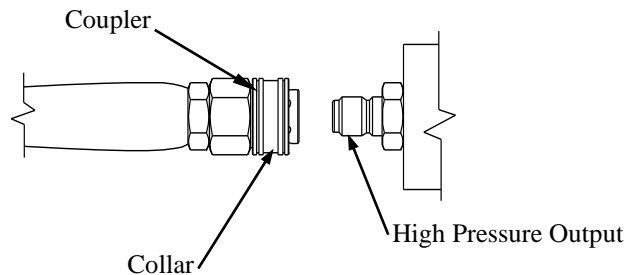

Figure 8a
3. The high pressure hoses are equipped with quick couplers. To connect the hose(s), simply pull the collar back and push the coupler onto the water outlet nipple. (Figure 8a). The collar should slide over the ball bearings.